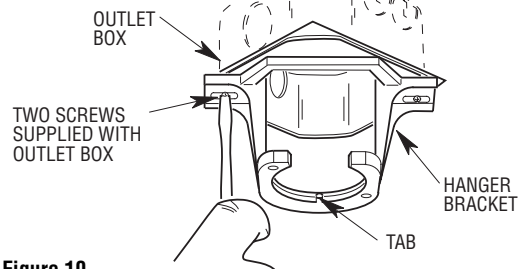
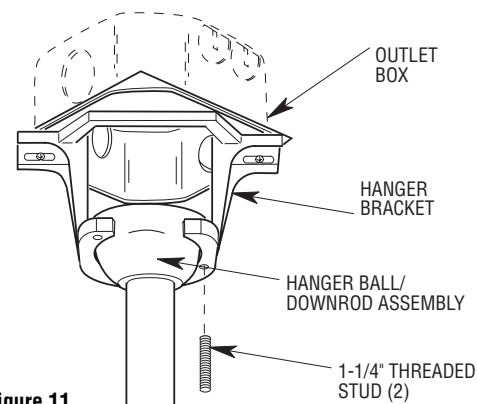

Figure 10
Figure 11
1. With the branch circuit electricity turned off at the breaker panel or fuse box, securely attach the hanger bracket to the outlet box using the two screws supplied with the outlet box. (Figure 10.)
2. Carefully lift the fan and seat the hanger ball/downrod assembly onto the hanger bracket that was just attached to the outlet box (Figure 11). Rotate the entire fan assembly until the ball groove engages the anti-rotation tab. Be sure the groove in the ball engaged the anti-rotation tab on the hanger bracket (Figure 10).